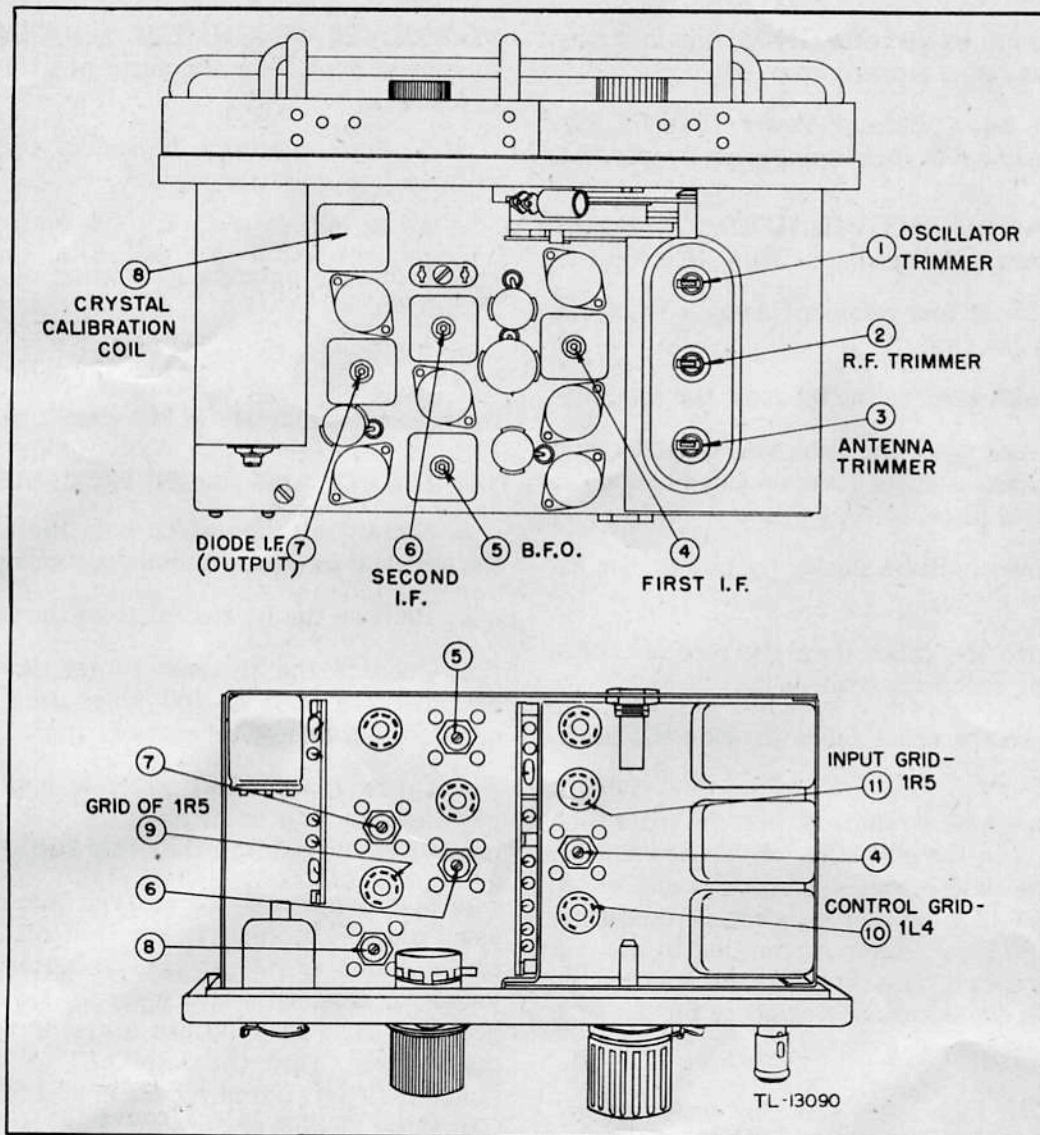

Figure 35. Receiver alignment points.
h. Connect the high potential or hot terminal of the signal generator to the grid of the second i-f tube through a blocking capacitor. See figure 35 for alignment points.
(1) Set the receiver dial to the correct frequency.
(2) Adjust the oscillator trimmer (located on the section of the gang capacitor nearest the panel of the receiver). This trimmer should be adjusted for maximum indication on the output meter. Some receivers will give a response at two adjustments of this trimmer.
t. Proceed as in paragraph 25 and adjust calibration oscillator screw number 8 in figure 35 for maximum output.